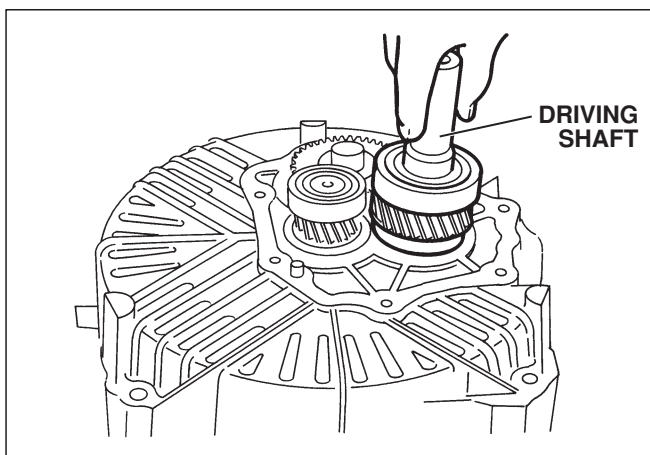

Fig. 10-9
- 7) Set the output shaft assembly in the adaptor.(See Fig. 10-9.)